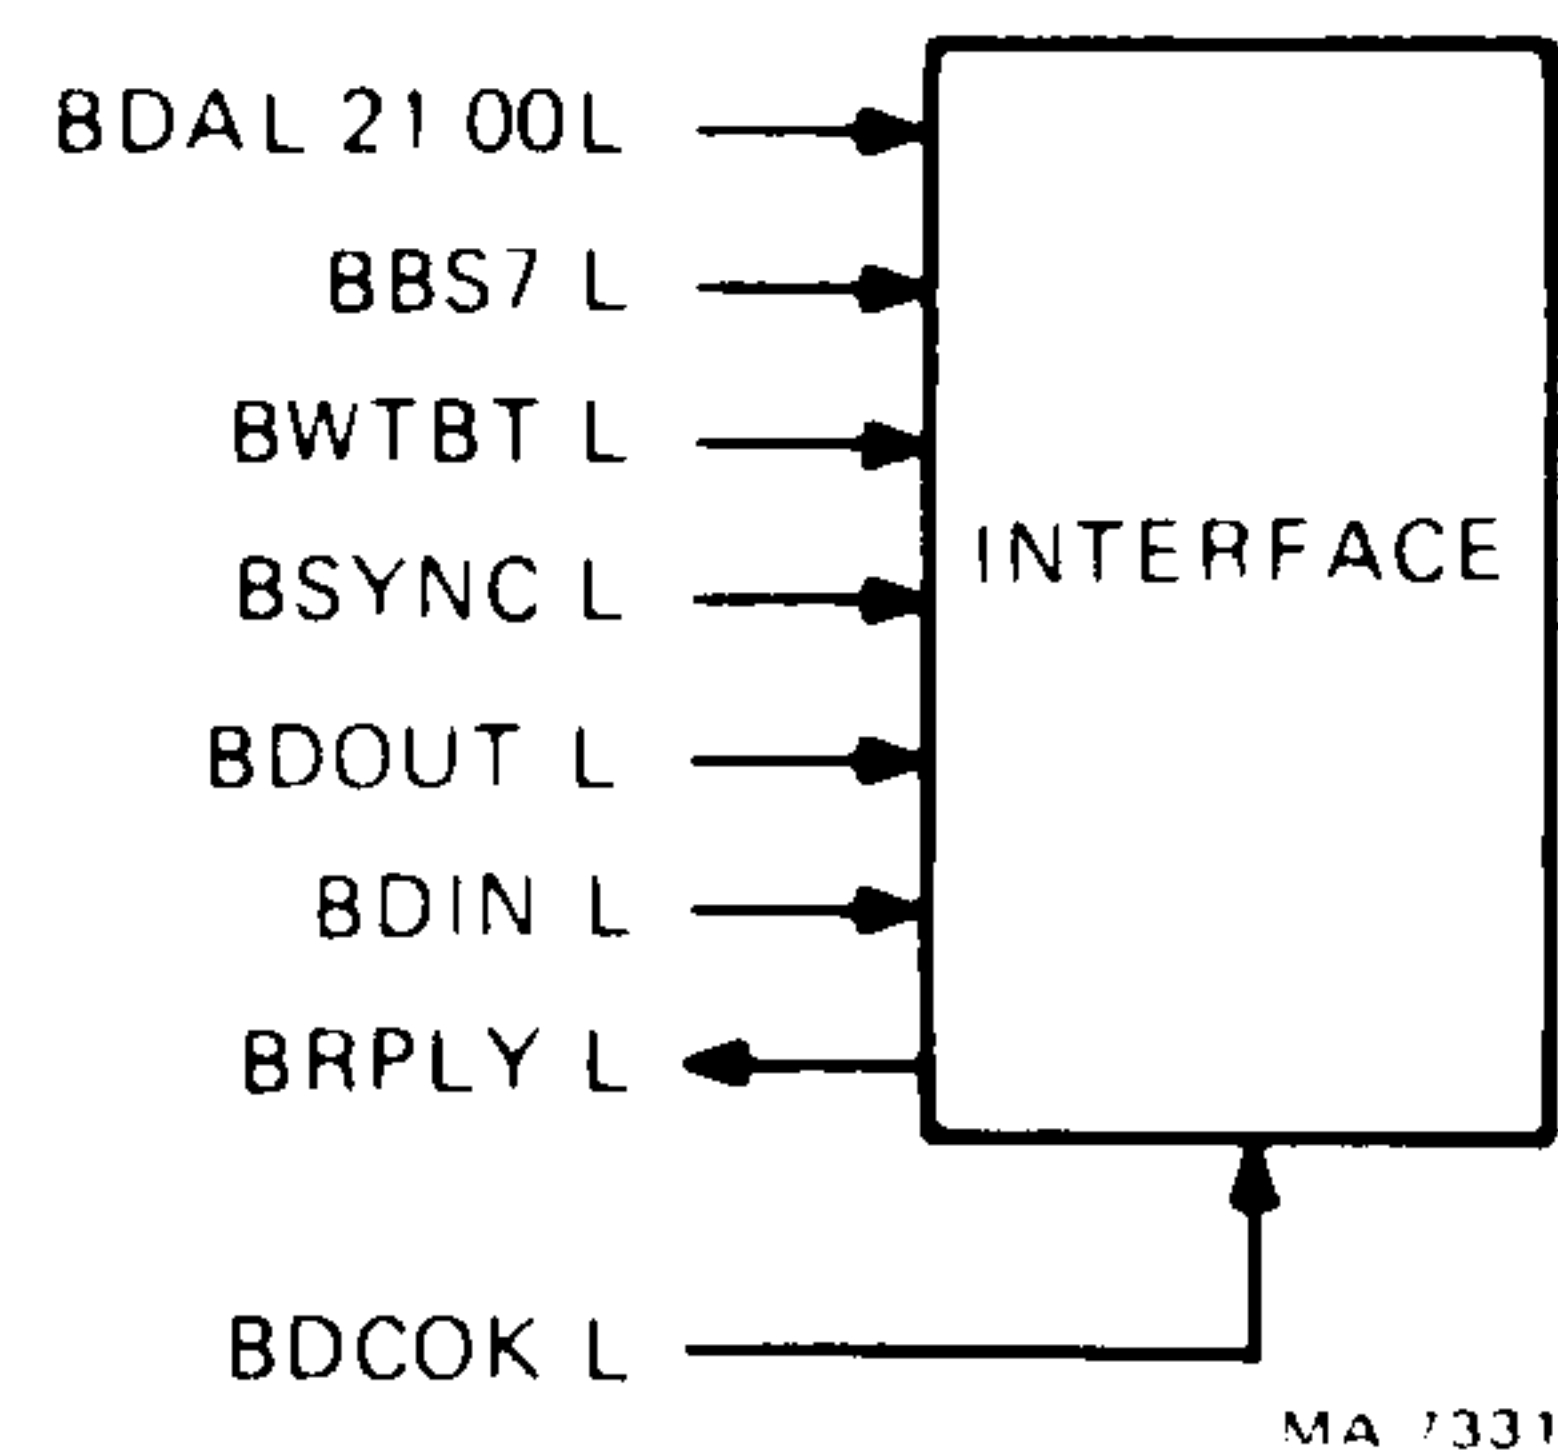

Figure 3-2 MCV11-D Memory Interface
The memory uses the following LSI-11 bus signals (Figure 3-2) to perform DATI, DATO(B), and DATIO(B) bus cycles.